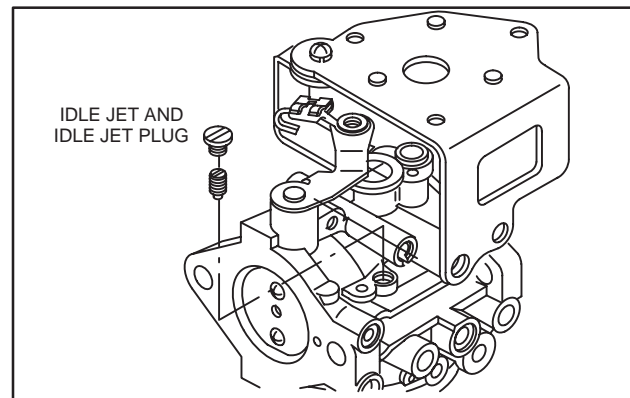

Fig. 42 – Installing Idle Jet
3. Install idle jet and plug, Fig. 42.